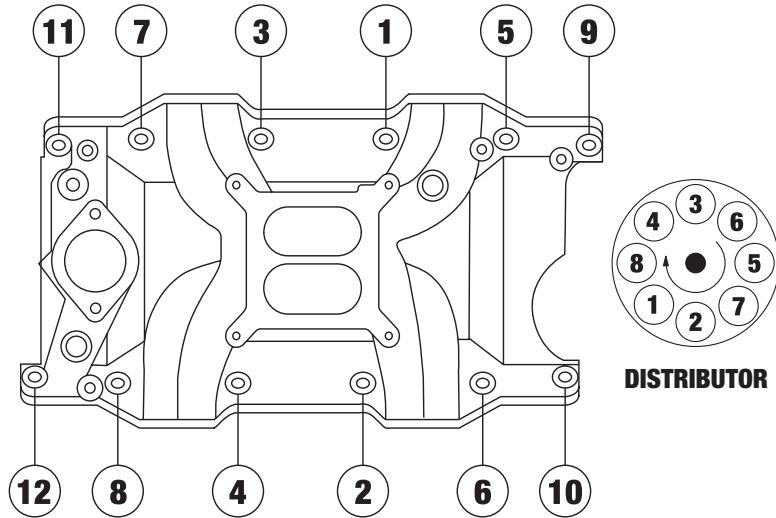

Figure 1 - 318-360 c.i.d. Chrysler Intake Manifold Bolt Tightening Sequence and Firing Order
6. Torque all of the manifold bolts in two steps by the sequence shown in **Figure 1** to 25 ft/lbs.